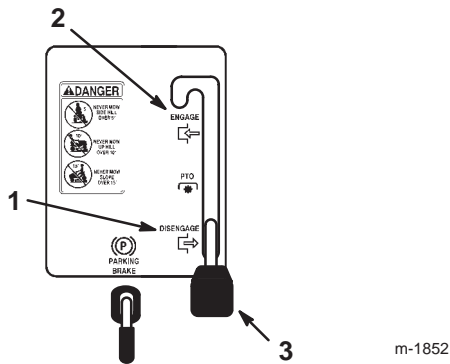

Figure 5
2. Shift the blade control (PTO) lever to Engaged (Fig. 5).
2. Shift the blade control (PTO) lever to Disengaged (Fig. 5).